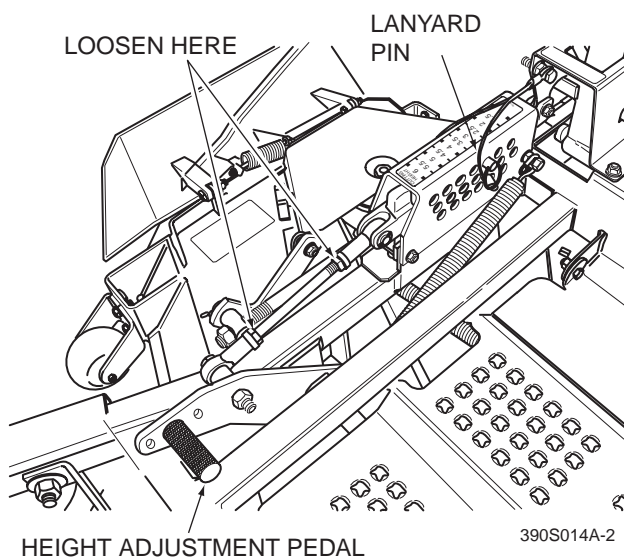
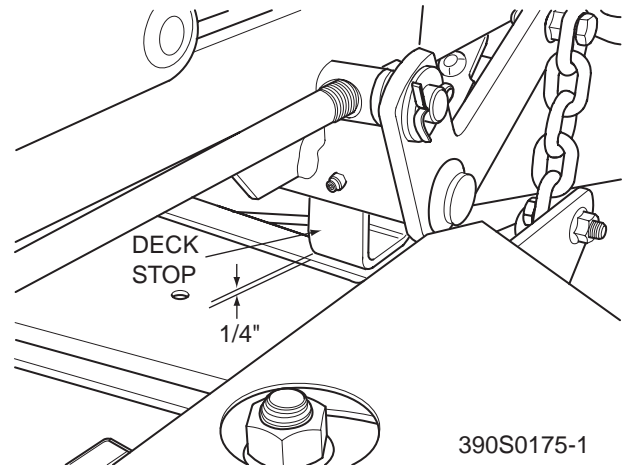

Figure 6-7. Cutter Deck Height Adjustment
Figure 6-8. Cutter Deck Stop
1. Place the cutter deck in the transport position. Loosen the jam nuts on both ends of the deck height control rod. (See Figure 6.7)
2. Turn the control rod (See Figure 6.7) until there is a 1/4" space between the rear deck stop and the top of the cutter deck. (See Figure 6.8). Tighten the jam nuts on the control rod.
4. Check the measurement from the floor to the cutter blade tip. If the measurement is not at 3", an adjustment can be made using the deck height control rod. (See Figure 6.7)